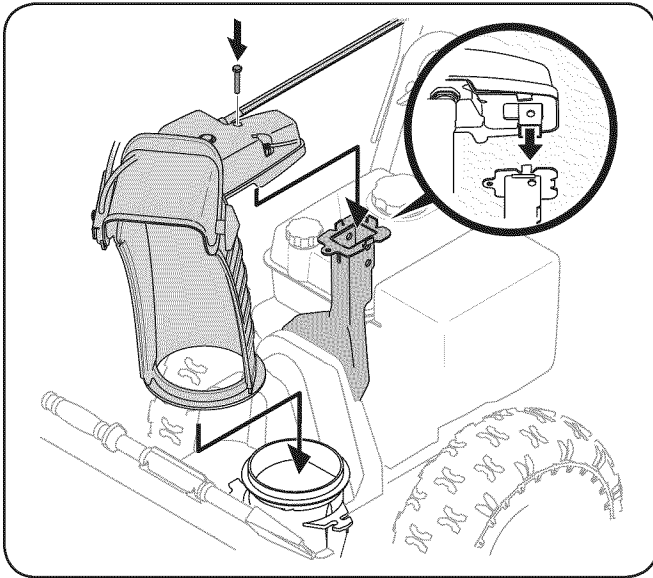

Figure 3-4
- Place chute onto chute base and ensure hex rod is positioned under the handle panel. Install hex bolt previously removed but do not secure with wing nut at this time. See Fig. 3-4.